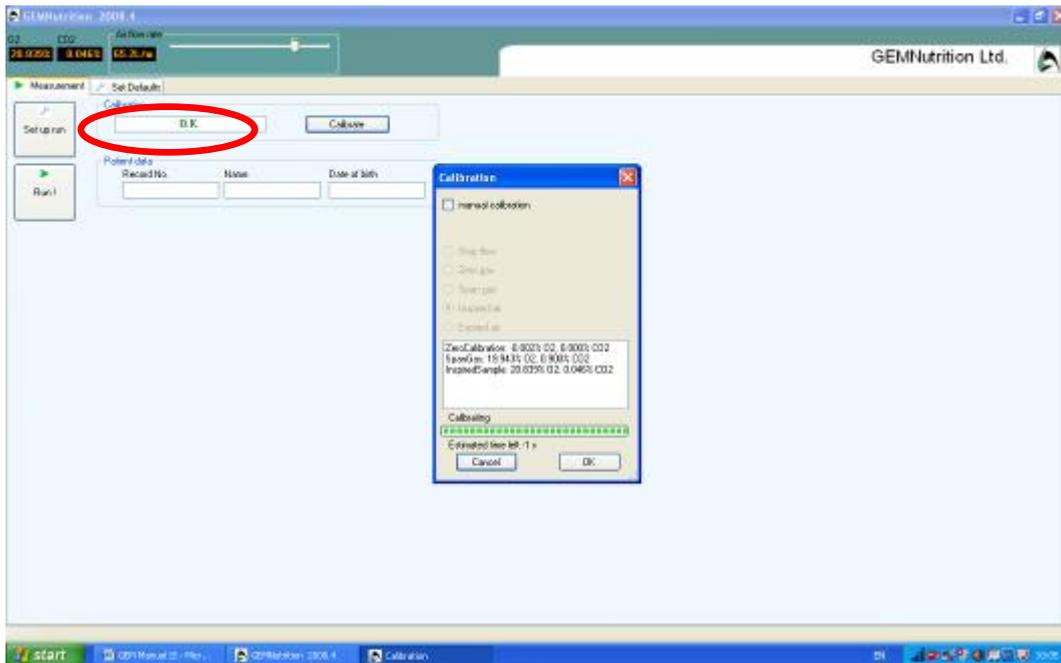

Figure 4. Calibration result.
7. After each calibration, “OK” in green text will be displayed (circled red in figure 4).
- c. Go to the “default settings” tab (shown in figure 4) and check under “connection settings” and “serial port name” it says “COM3.